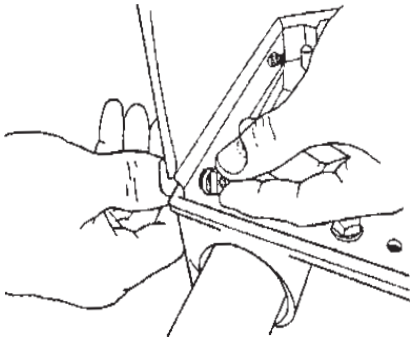

Figure B- 25
9. Insert a screw (31) through a hole in the base and leg. Use a star washer (32) and nut (33) to attach the screw, as seen in Figure B-25. Finger tighten.